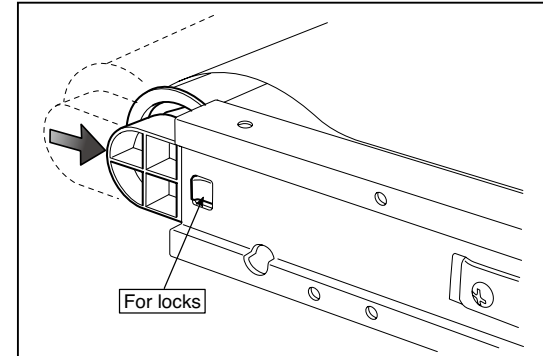

Fig.30
- 4.Push the Tension Roller Base block shown in the figure 30 into the inside and fix the Tension Roller Bases.